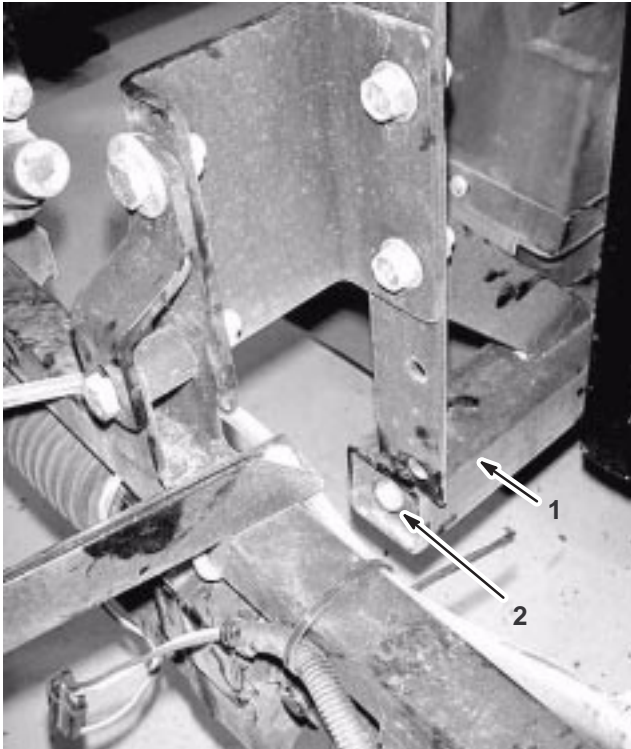

Figure 1
1. Loosen the 2 bolts securing the boom frame to the vehicle and back the boom frame out 2 inches (Fig. 1) to allow for installation of hose reel supports.
4. Slide the boom frame in so that there is 1-1/2 inches (4 cm) of clearance between it and the vehicle or hose reel frames (Fig. 1).
5. Tighten the boom frame bolts (Fig. 1) until the clearance between the boom frame and the vehicle or hose reel frame is 1 inch (2.5 cm).